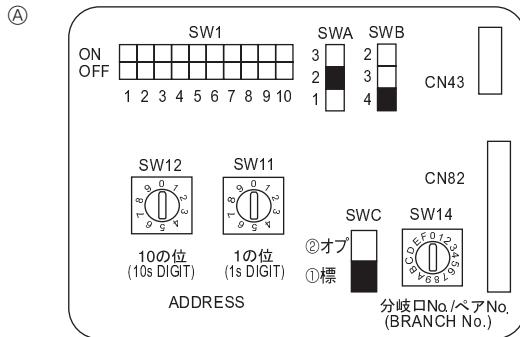

Fig. 5-4
5.6. Switch setting for high ceiling or at the time of changing the number of air outlets (Fig. 5-4)
①	②	③
④ 4 direction	Silent	Standard	High ceiling
③ 3 direction	2.5 m	2.7 m	3.5 m
② 2 direction	2.7 m	3.0 m	3.5 m
5.7. Sensing room temperature with the built-in sensor in a remote controller (Fig. 5-4)
- ③ Wireless remote controller(When installing wireless signal receiver)
5.5. Setting addresses (Fig. 5-4)